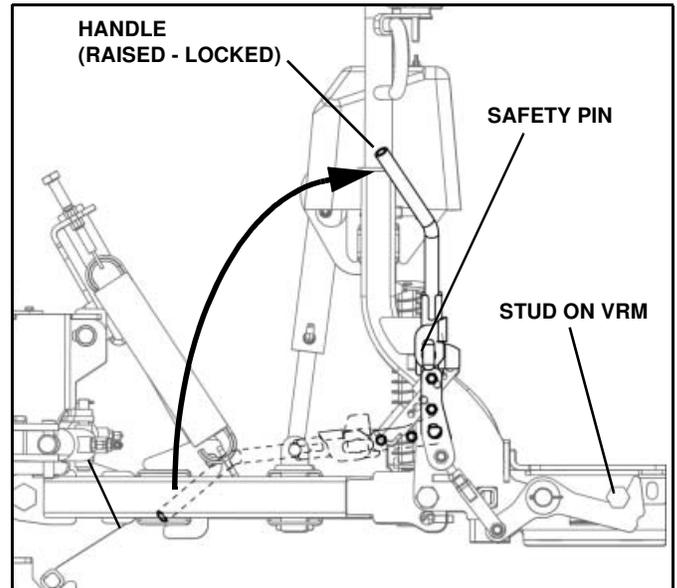

Figure 1-27
3. Pull up engagement handle to engage plow onto stud on VRM, ensuring that the safety pin is fully engaged. (See Figure 1-27).